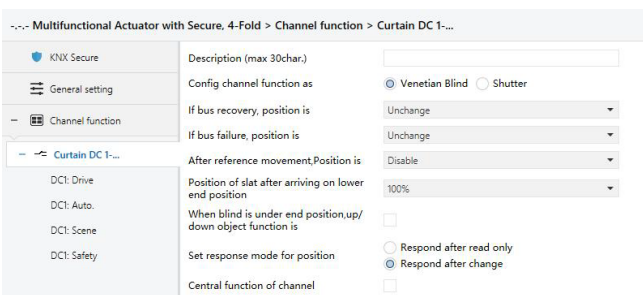

Fig. 1.7 Parameter window "Curtain DC X"
1.7. SHUTTER (DC) OUTPUTS
The curtain (DC) output has a maximum of 6 output channels, since the parameters and communication objects assigned to each output are the same as those of the curtain (AC) output, except that the parameters are not selected by the "Motor type" drive type. The parameter interface is shown in Figure 1.7.